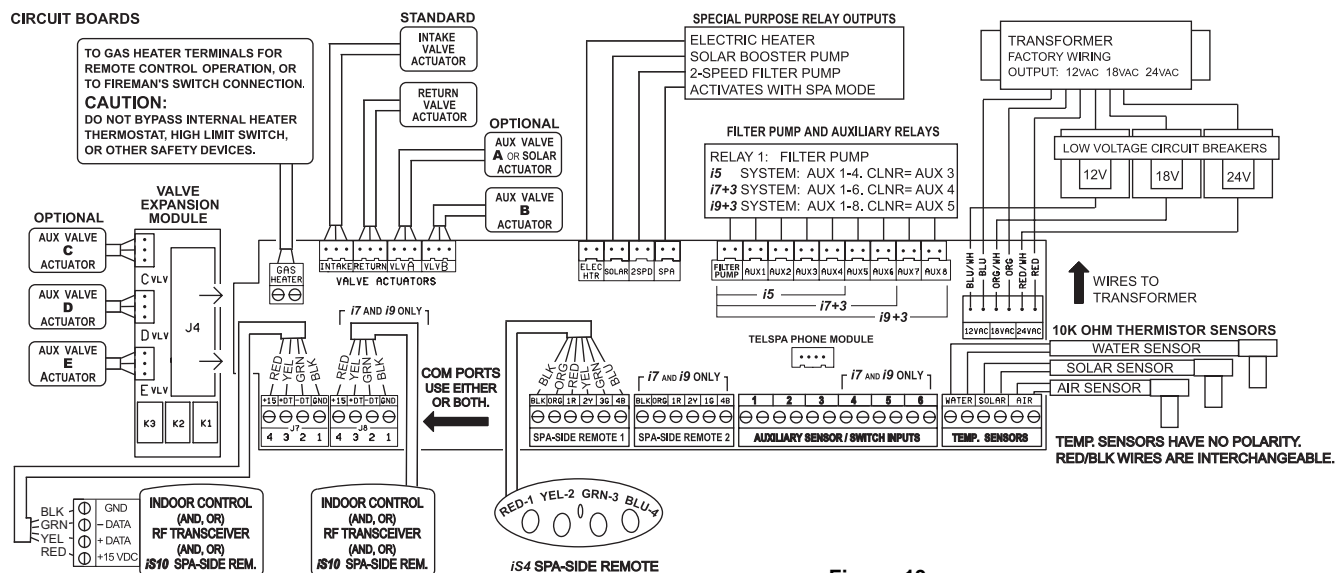

Figure 13.
5. Route the cable up through the low voltage raceway located on the left of the Load Center to the Personality Board, see Figure 13.